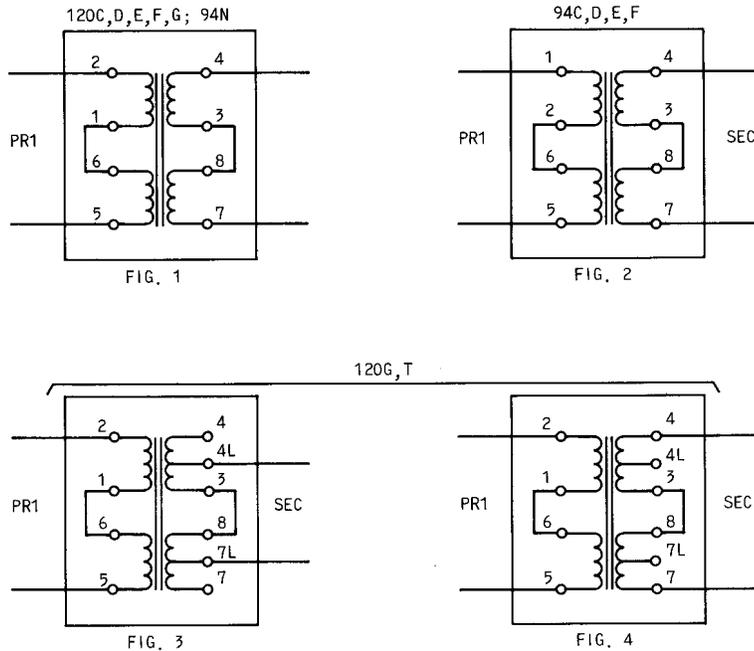

Fig. 6-53—Repeating Coils
**6.66 Description:** Repeating coils are used for matching impedances of facilities and equipment, for simplexing, and for improving longitudinal isolation. Repeating coils are used in signaling equipment to pass VF (ac) while blocking dc. The most commonly used types are the 120-type and 94-type shown in Fig. 6-53 and covered in Table 6-0.